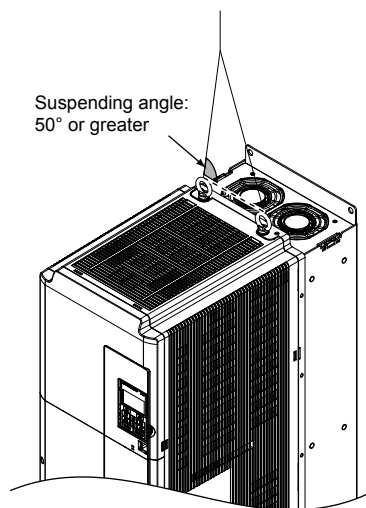

Figure 2.5 Drive Suspension Using Wires and Eye Bolts
**WARNING! Crush Hazard.** Use an adequate length of wire to ensure a 50° or wider suspension angle as illustrated in Figure 2.5. The maximum allowable load of the eye bolts cannot be guaranteed when the drive is suspended with the wires at angles less than 50°. Failure to comply may result in serious injury or death from falling equipment.